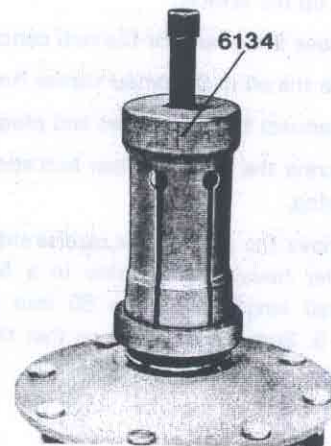
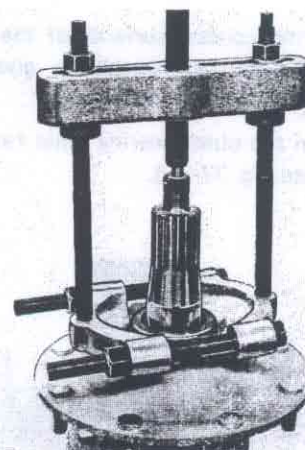

Fig. 77-11. Removing the outer bearing inner ring
Fig. 77-19. Removing the wear ring
4. Pull off the outer bearing inner ring with puller 6134, see Fig. 77-11.
4. Check the sealing surfaces of the sealing rings. If the sealing surface on the stub axle is damaged, replace the stub axle. If the surface on the wear ring is damaged, replace the wear ring as follows: Pull loose the outer bearing inner ring with puller 6134, Fig. 77-11. Pull loose the wear ring with Kukko standard jackknife 15-17, Fig. 77-19. If the sealing surface on the gear wheel is damaged, replace the gear wheel.